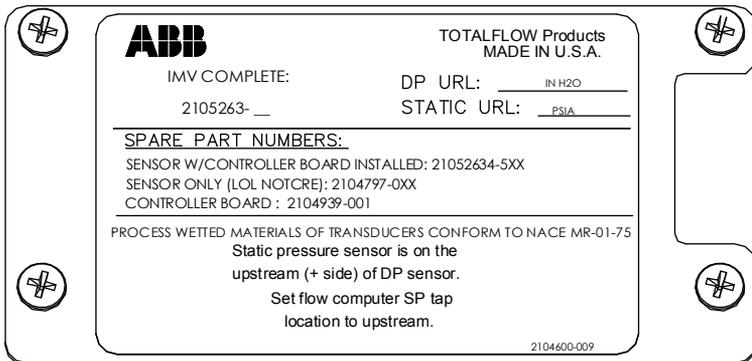

Figure 4: Cover plate with transducer information
5. On the transducer housing assembly, use a phillips screwdriver to remove the four (4) screws that attach the cover plate that contains the transducer information. Remove and set the plate aside (Figure 4). The cover plate should always stay with the IMV.